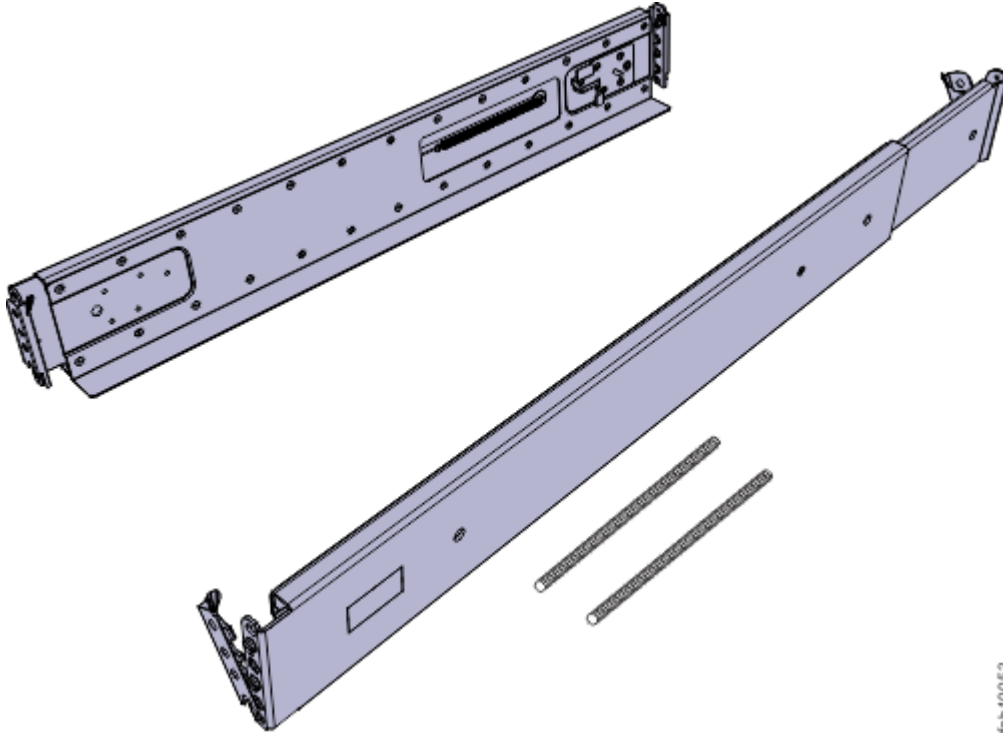

Figure 13. Expansion enclosure support rails
1. Locate the expansion enclosure rails (Figure 13 on page 17).